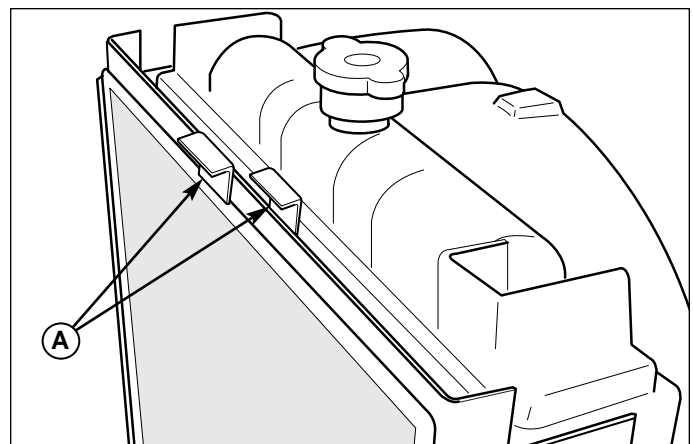

Figure 22. Radiator Screens
2. Slide both radiator screens (A, Figure 22) up and out of the mounting tracks.